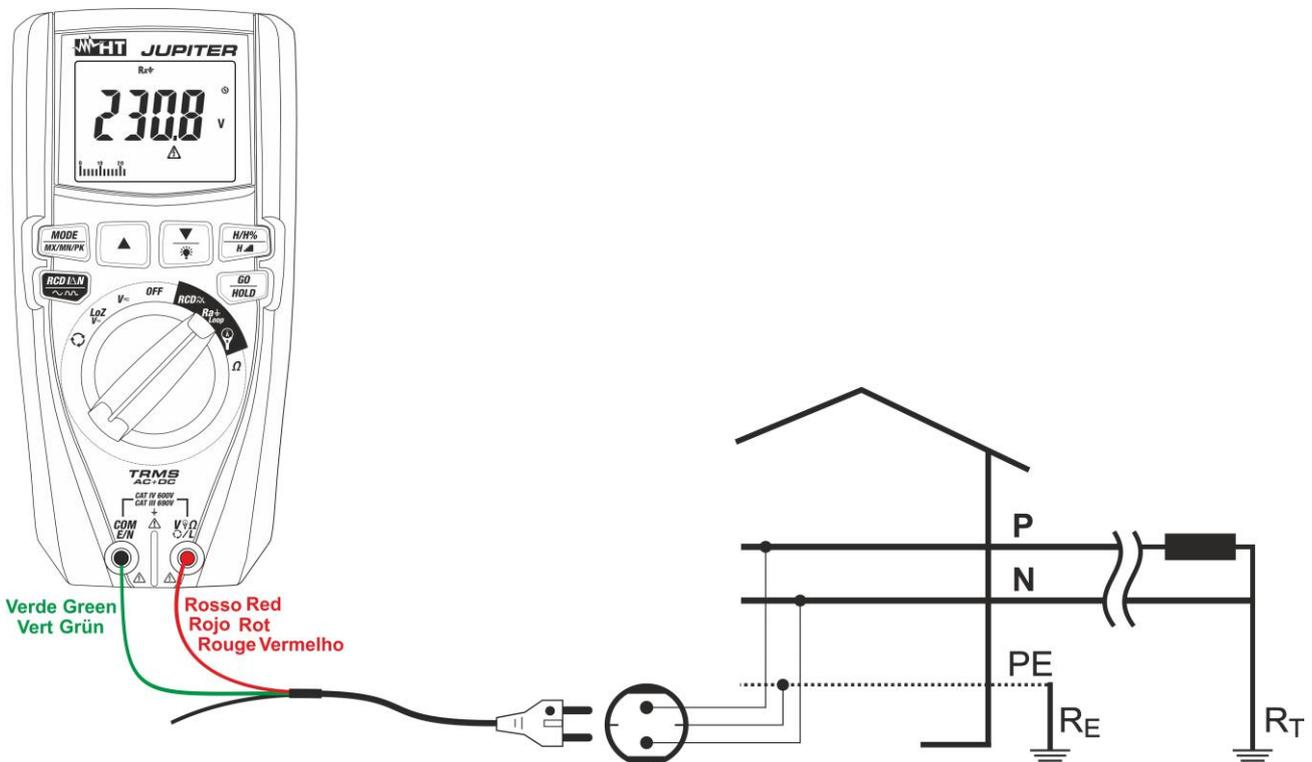

Fig. 23: Use of the instrument for measuring Loop L-PE impedance with cable provided with Schuko plug
5. **For Loop L-PE measurements**, in case the cable with Shuko plug is used, insert the red conductor into input terminal **V Ω L** and the green conductor into input terminal **COM/E/N** and connect the instrument to the system to be tested (see Fig. 23). The value of voltage Phase-Earth is shown on the display